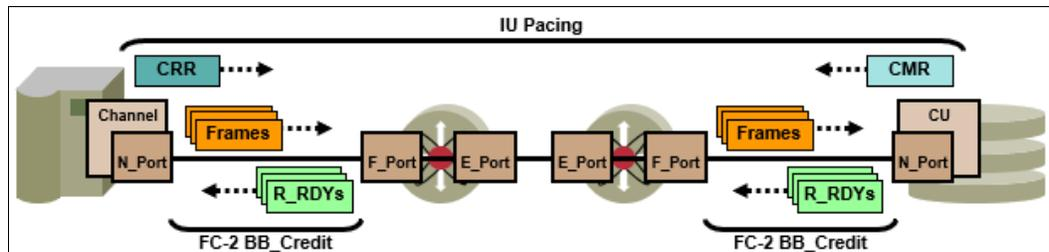

Figure 5-16 IU pacing flow control mechanism
- ▶ Persistent IU pacing improved performance over longer distances. This mechanism is an end to end flow control mechanism, as shown in Figure 5-16, which was introduced on top of the hop-by-hop buffer-to-buffer (B2B) credits mechanism that is used by the FC protocol.